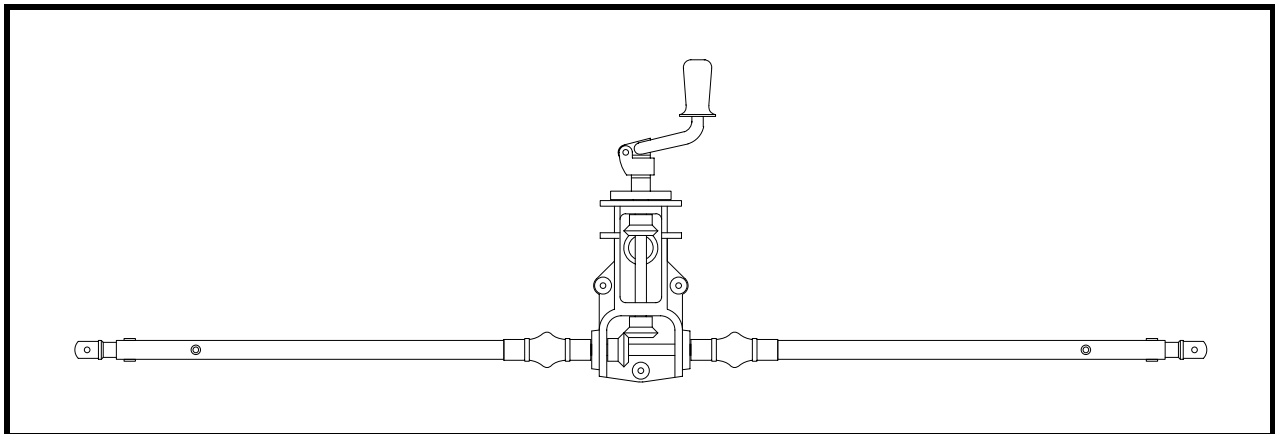

Figure 43
- ❑ Install P/N 822A handle on P/N 820 with the required shoulder screw and washer. See Figure 43. The shoulder screw should be installed with Loctite, but first check to make sure that the handle will turn freely with the shoulder screw tightened all the way. If